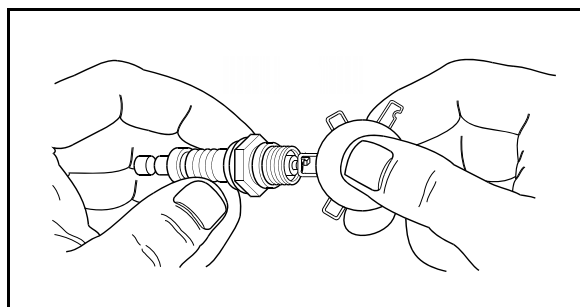

Figure 4-11. Adjust Spark Plug Gap
7. See Figure 4-11. Check spark plug gap using a wire feeler gauge. Adjust gap by carefully bending ground electrode to 1.02 mm (0.040 in).